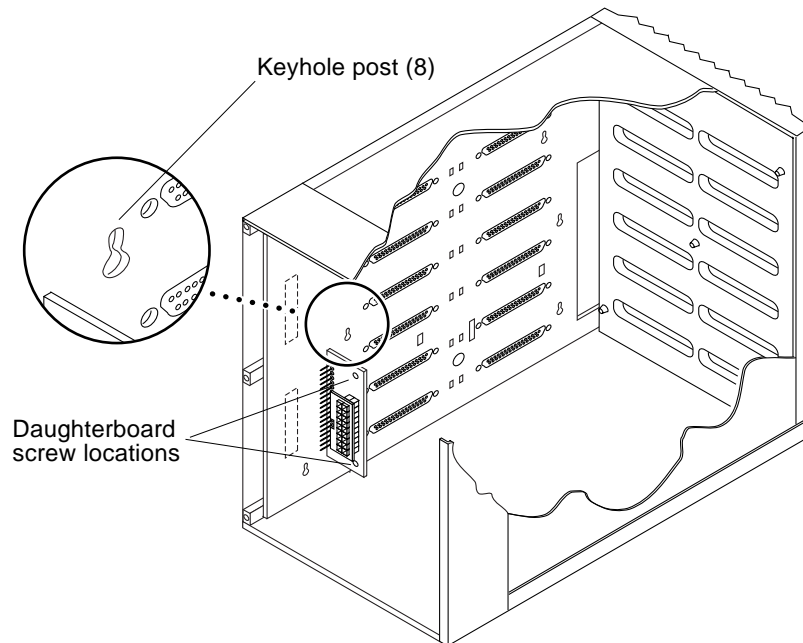

FIGURE 6-6 Detaching the Backplane
- 12. Remove the two screws that secure the daughterboard to the chassis (FIGURE 6-6).**
Note – The backplane is attached to the right wall of the chassis by resting on eight keyhole posts (FIGURE 6-6).
13. Lift up slightly on the backplane to slip it off the keyhole posts (FIGURE 6-6).
2. **Align the keyholes on the backplane to the keyhole posts on the chassis, and carefully hang the backplane on the posts (FIGURE 6-6).**
- 5. Insert and secure the two screws that connect the daughterboard to the chassis (FIGURE 6-6).**